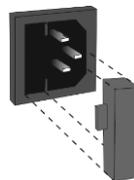

Figure 4. Fuse holder
8.4. Fuse replacement. Disconnect the power cable from the mains. Disconnect the power cable from the socket on the rear of the unit. Open the fuse holder, located near the socket (fig. 4). Check and replace with a correct fuse, if necessary, see table below: